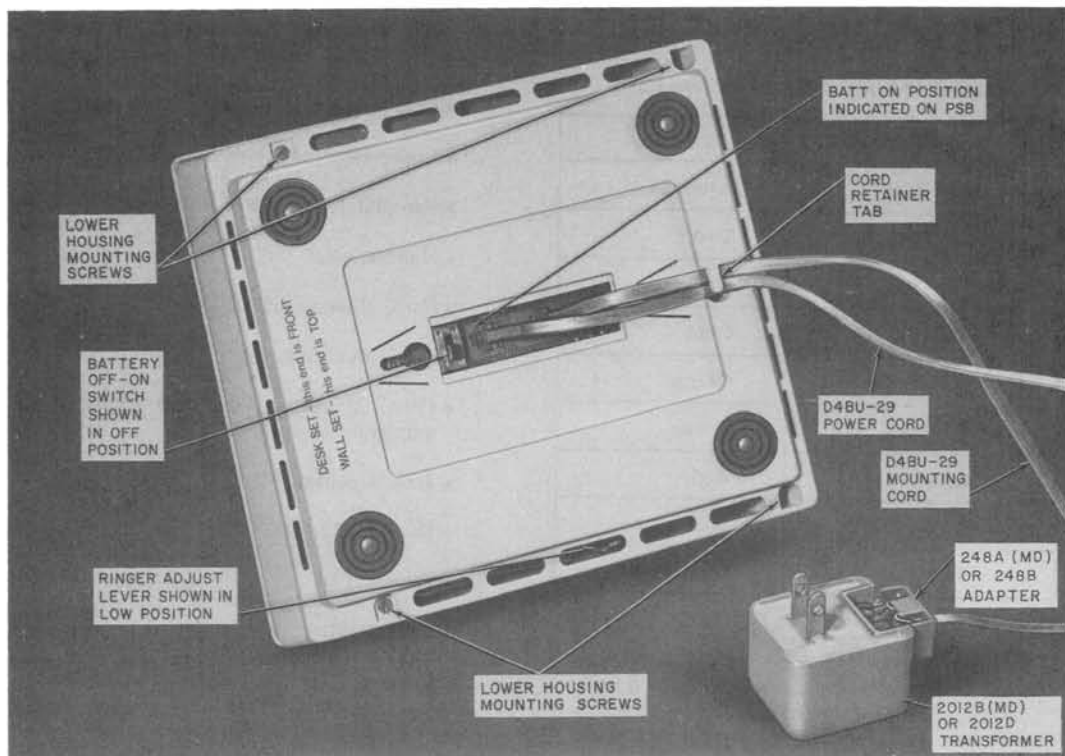

Fig. 2—960A01M Telephone Set, Bottom View
- Battery OFF-ON switch (located on the bottom of the set, Fig. 2), should be in the OFF position when set is not in service.
- (1) Adapter, 248A (MD) or 248B (to connect D4BU modular mounting cord to 2012B (MD) or 2012D transformer) Fig. 2.
3.04 Attach 248A or 248B adapter to 2012B or 2012D transformer (Fig. 2) and plug into 110-117 volt ac outlet not controlled by a switch (continuous ac power is required). Plug one end of the D4BU-29 power cord (maximum 14 feet) into the power jack on the bottom of the set (Fig. 15C) and the other end into the 248A or 248B adapter.
3.06 The set is shipped from the factory with the battery switch in the OFF position. After all wiring changes and modifications have been completed, tilt the set up and move the battery switch arm (now visible in the bottom view of the set, Fig. 2) to the ON position.
Note: The switch ON position is indicated on the bottom of the printed wiring board (Fig. 2), and if switch is not placed in ON position, the set will not record or automatically dial.
Note: Dress all cords under retainer tab at bottom rear of housing, Fig. 2.